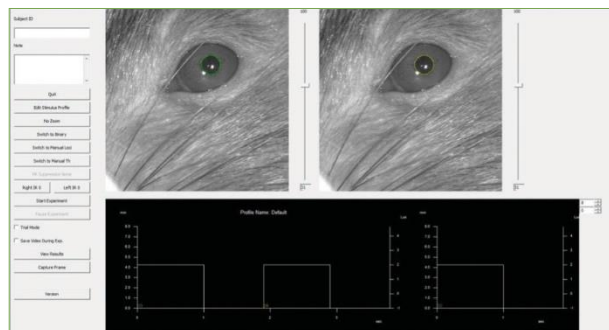

Figure 12 – The main program graphic user interface (GUI).
All possible options to operate the program are listed in the left most side of the GUI (see Figure 12). The live video from the two cameras is displayed in the same GUI. Pupil tracking is represented by a circle fitting the contour of the pupil– the subject’s left eye is displayed on the right and the subject’s right eye is displayed on the left. This is to maintain the natural perspective of the examiner facing the subject during the examination. The left pupil (OS) is tracked with a yellow circle and the right pupil (OD) with a green circle. This association (left-yellow and right-green) is also used for display purposes (see below). Light stimulus waveform and the corresponding pupil response dynamics are shown together in the graph located at the bottom of the GUI. Note: the software version can be checked by pressing the Version button.
The first two windows on the top of the list (Figure 12) serve to enter information regarding the current measurement (Subject ID and Note). This information is attached to the master data result file produced at the end of the measurement and used for defining the name of the result file.
The subject should be positioned close to the cameras. The cameras can then be positioned in front of each eye and adjusted so the eye is visible and well in focus in the center of the video display in the main GUI (Figure 12). A green circle should automatically track the right eye (displayed on the left) and a yellow circle tracks the left eye (displays on the right). It is very important to carefully check the accuracy of the tracking before initiating the experiment. If the circles are not precisely around the pupil or there is no circle or there is only a red circle moving erratically around the video frames and tracking other portions of the image or the green (or yellow) circle turns occasionally into red – all of these are signs of bad tracking and a few corrective steps are necessary before initiating the measurement. Below is the list of all the available options.